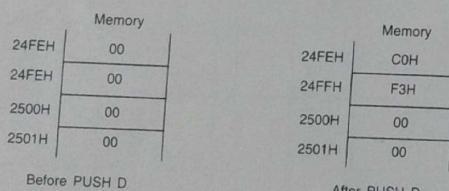

Figure 7.1 Stack operation.
Solution In this example the first instruction is used to initialize the stack pointer (SP). With the second instruction F3C0H immediate data is loaded in the register pair DE. By third instruction the contents of the DE register pair are loaded on the top of the stack memory. The contents of the stack memory are shown in Figure 7.1.